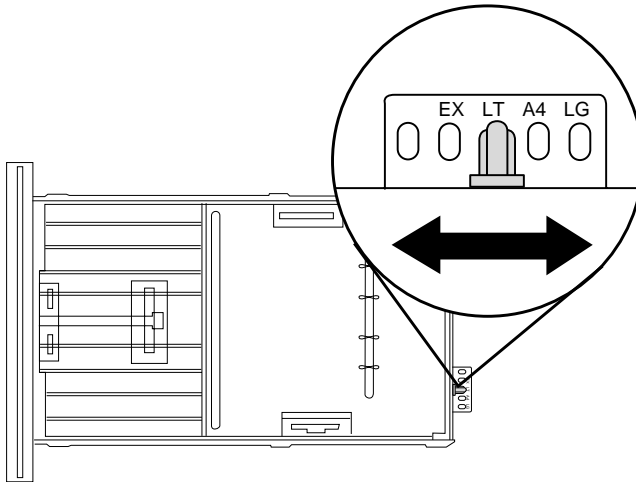

Fig. 2.30 Check the Cassette Size Key Slide
2. Make sure the size key slide on the back end of the cassette is set for letter- or A4-size media (fig. 2.30).